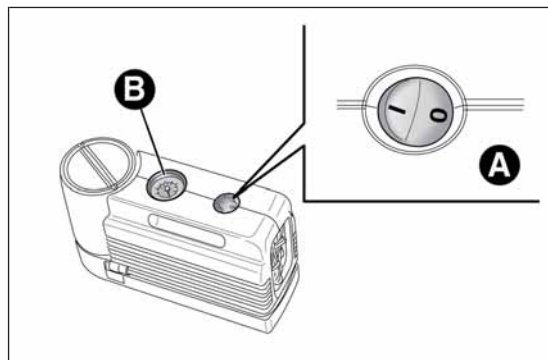
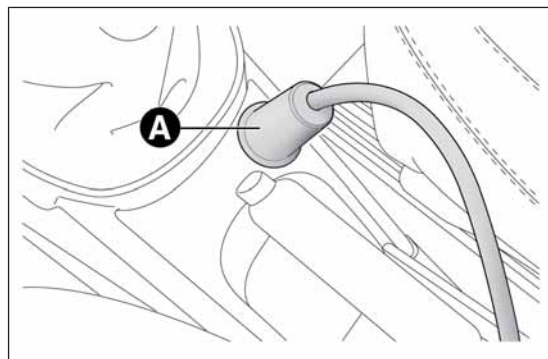

fig. 128
fig. 129
- ❑ make sure that switch A fig. 128 for the compressor is in position 0 (off), start the engine, insert the plug A fig. 129 into the power socket on the central tunnel and switch on the compressor by bringing switch A fig. 128 to position I (on);
- ❑ inflate the tyre to the pressure indicated in the "Wheels" paragraph in the "Technical specifications" section. In order to obtain a more precise reading, check the pressure value on pressure gauge B fig. 128 with the compressor off;